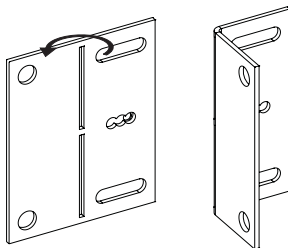

Figure 28
8. Bend the nailing flanges 90 degree as shown in **Figure 28.**